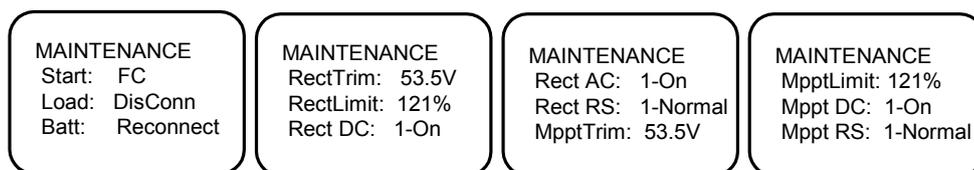
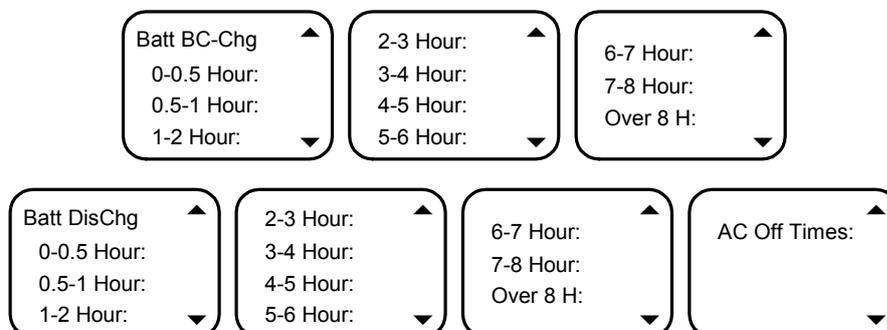

Figure 4-9 Maintenance screen
Figure 4-18 Battery record information screen
3. Press the **ENT** key to set the Sys Mode in the Sys Mode screen, then press ◀ or ▶ to change the **Sys Mode** to 'manual' and press the **ENT** key to confirm, press the ▼ or ▲ to enter the **Maintenance** screen shown in Figure 4-9. Press ▲ and ▼ to scroll line by line.
In the **STATUS** screen shown in Figure 4-9, press ▲ or ▼ to select the sub-menu **battery record**, Press the **Enter** button to enter the battery record information screen, as shown in Figure 4-18.
Battery record information includes the number of BC, the number of battery discharge, AC power failure frequency, which contains the number of BC, battery discharge frequency is the statistics in accordance with 0-0.5 hours, 0.5-1 hour, 1-2 hours, 2-3 hours, 3-4 hours, 4-5 hours; 5-6 hours; 6-7 hours; 7-8 hours, 8 hours. The displayed contents on Figure 4-18 are just examples. Press ▲ or ▼ to change the line, you can cycle to switch between screens of information.